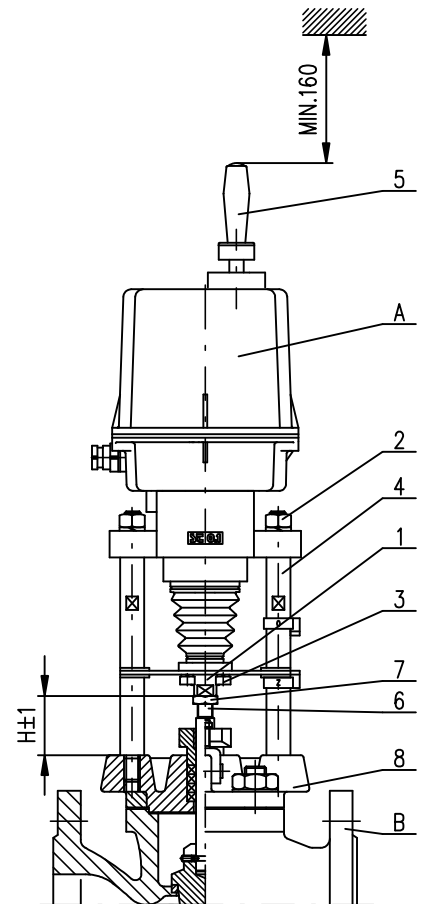

Fig. 3
**Mechanical connection for pillar version - Fig. 3**